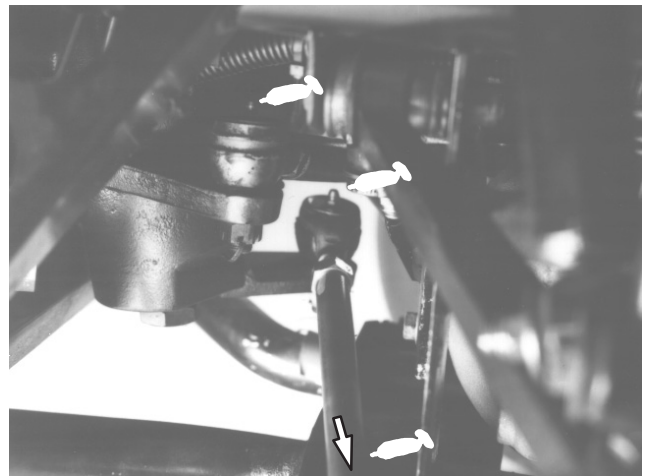

Figure 28
The grease fitting locations and quantities are: Tie rod ends (4) (Fig. 28), Front ball joints (4) (Fig. 28), Rear drive shafts (18) (Fig. 29), Mid drive shaft – 4 wd only (3) (Fig. 30) Pedal Pivots (4) (Fig. 31); Steering shaft (1) (Fig. 32), Front pivot bushings (2) (Fig. 33) and Throttle pivot (1) (Fig. 34).